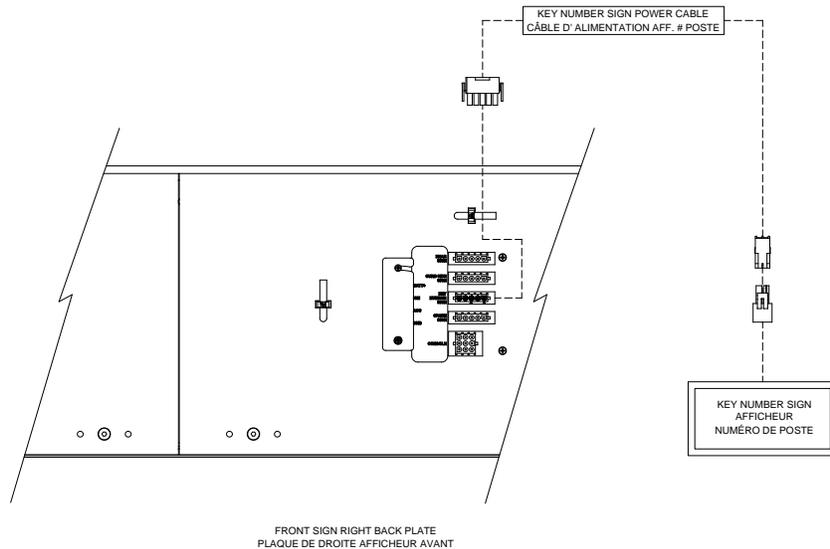

Figure 10: Key Number Sign Cable Connection
- Connect the power cable (5-pin connector) to the **KEY NUMBER SIGN** connector (5-pin connector) located on the Back Plate of the Front Sign. (See Figure 10).